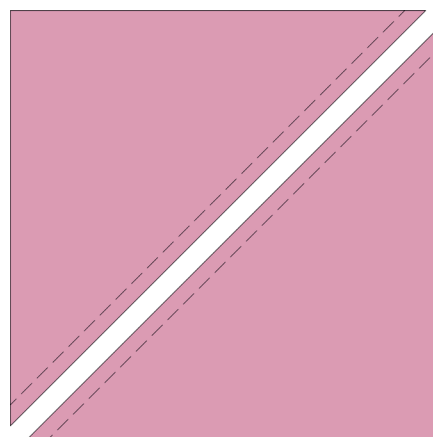

Figure 4
3. Cut the squares on the drawn line. (Figure 4)